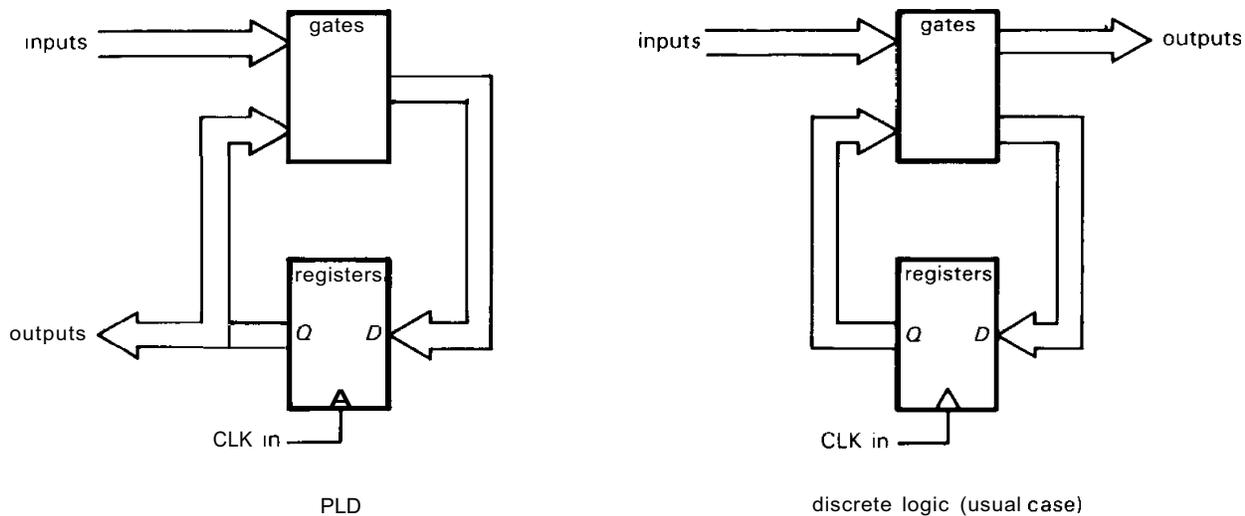

Figure 8.83
**Replacing "random" logic.** Within many circuits you find little knots and tangles of gates, inverters, and flip-flops, scornfully referred to as *random logic*, or *glue*. A PLD will generally cut the package count by a factor of 4 or more. It also generally results in cleaner design, because the enormous number of gates available means that you can do all your gating at the *inputs* to the registers (resulting in strictly synchronous outputs), instead of the gate-conserving method of also combining register outputs via gates. With the latter the outputs are not strictly synchronous; Figure 8.83.